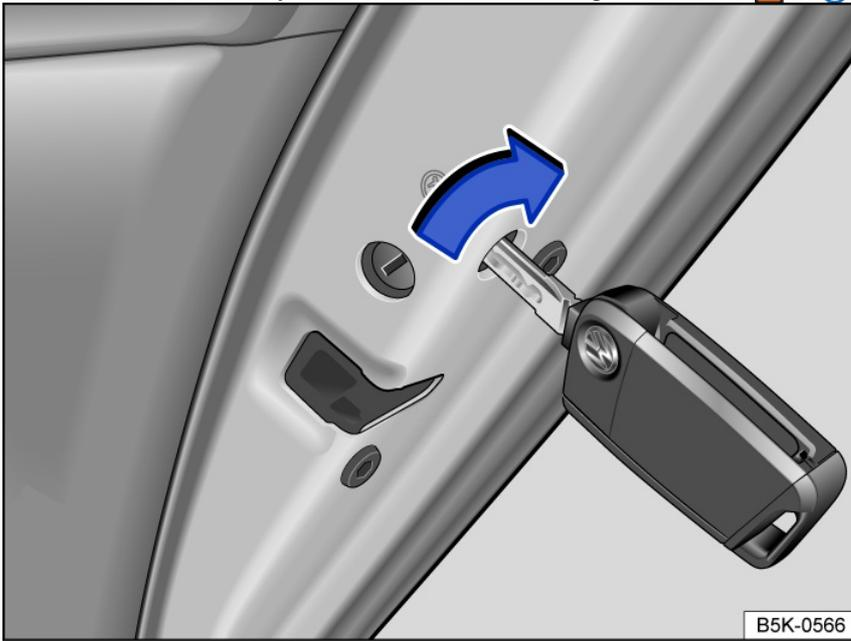

Fig. 60 On the front of the right rear door: manually locking the vehicle with the vehicle key.
- Insert the key bit or emergency key into the slot and turn it *fig. 60*.